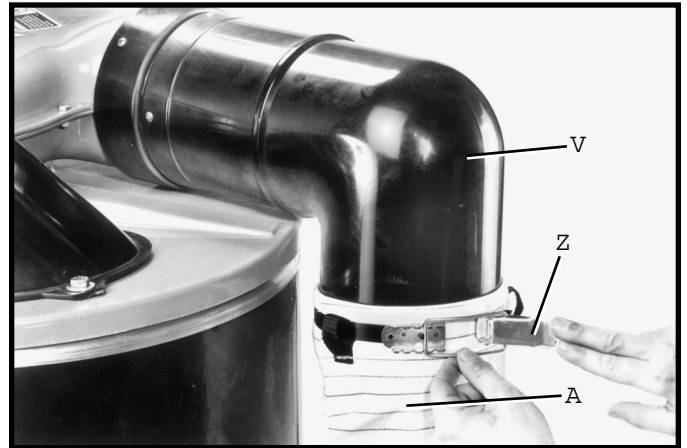

Fig. 17
11. Clamp dust bag (A) Fig. 17, to bag elbow (V) as shown by fastening bag clamp (Z).